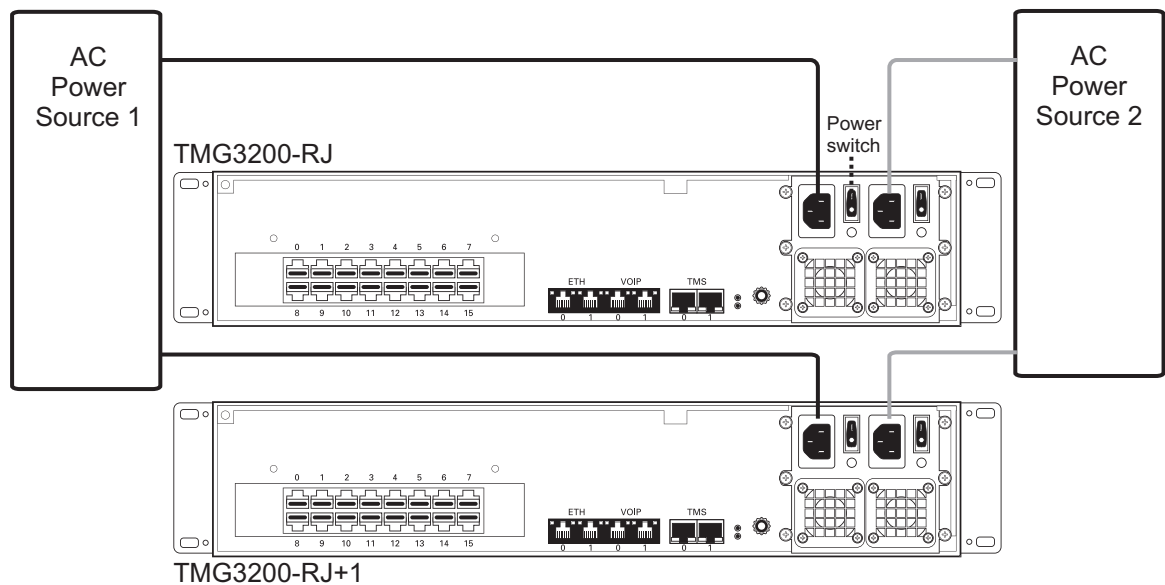

Figure 2.18 TMG3200 and TMG3200 +1 AC Power Connections
1. Connect the first power connector of each unit to the first power source. See Figure 2.18.